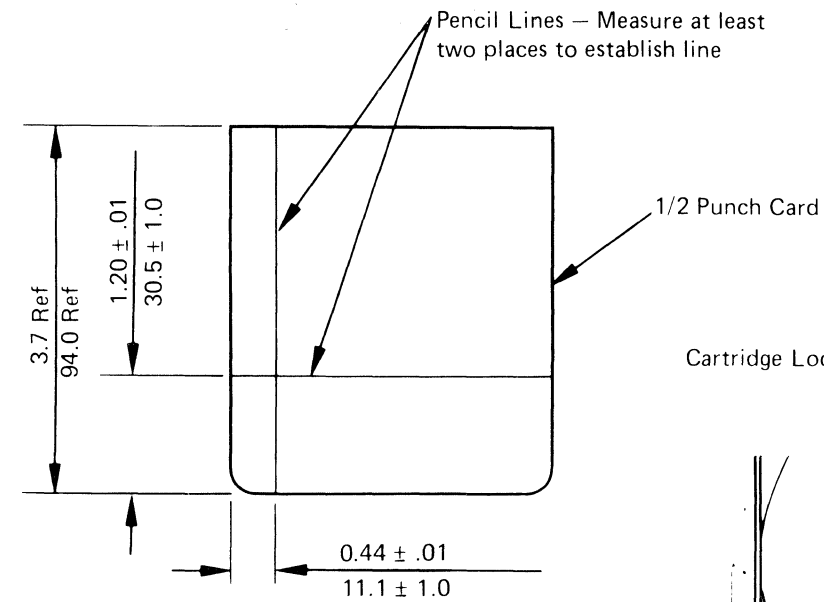

Figure 3.
13. Construct a template from a punch card (see Figure 3).